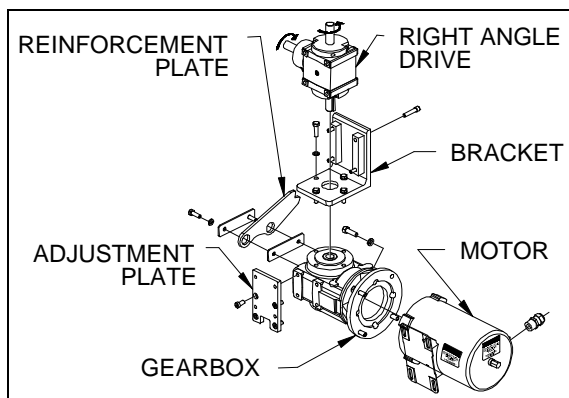
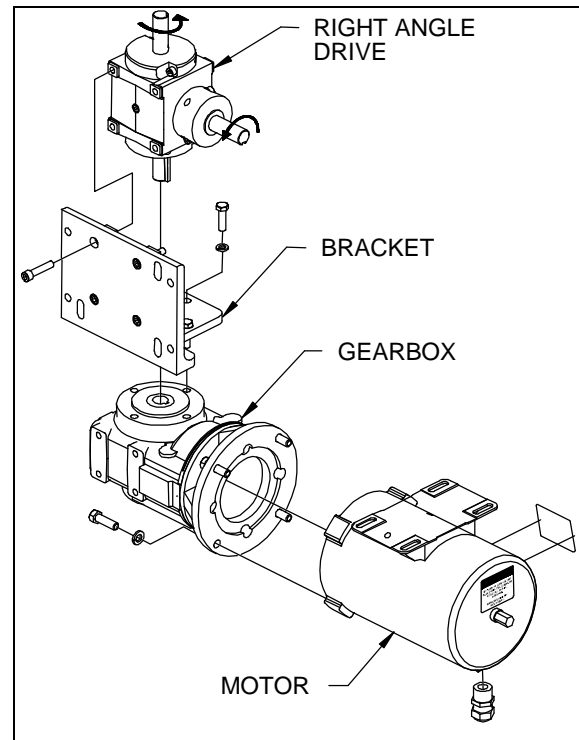

FIGURE 25 : FRONT SLIDE-OUT MOTOR ASSEMBLY
FIGURE 26 : REAR SLIDE-OUT MOTOR ASSEMBLY
3. **For the front slide-out:** Remove the reinforcement plate from the gearbox (figure 25).
5. Remove the gearbox assembly (figure 25 and figure 26). Note the shim position.
6. Unscrew the right angle drive from its bracket (figure 25 and figure 26).
9. Check the right angle drive rotation (figure 25 and figure 26) before installing it on the bracket. Align the right angle drive shaft with the gearbox hollow shaft and tighten all screws.